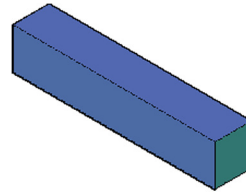

FIGURE 23.10
Step 2. Select both pieces and press Enter. The result is shown in Figure 23.10; only the intersecting part remains.